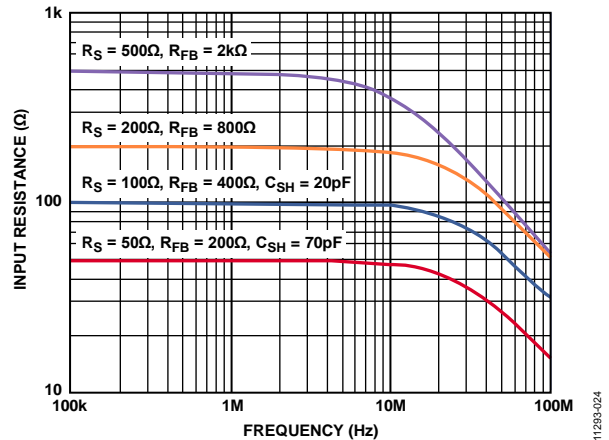

Figure 34. Input Resistance (R_{IN}) vs. Frequency for Various R_{FB} Values (Effects of R_s and C_{SH} Are Also Shown)
The bandwidth (BW) of the LNA is greater than 80 MHz. Ultimately, the BW of the LNA limits the accuracy of the synthesized R_{IN} . $R_{IN} = R_s$ up to approximately 200 Ω. The best match is between 100 kHz and 10 MHz where the lower frequency limit is determined by the size of the ac coupling capacitors and the upper limit is determined by the LNA BW. Furthermore, the input capacitance and R_s limit the BW at higher frequencies. Figure 34 shows input resistance (R_{IN}) vs. frequency for various R_{FB} values.
For larger R_{IN} values, parasitic capacitance starts rolling off the signal BW before the LNA can produce peaking. C_{SH} further degrades the match; therefore, do not use C_{SH} for values of R_{IN} that are greater than 100 Ω (see Figure 34).